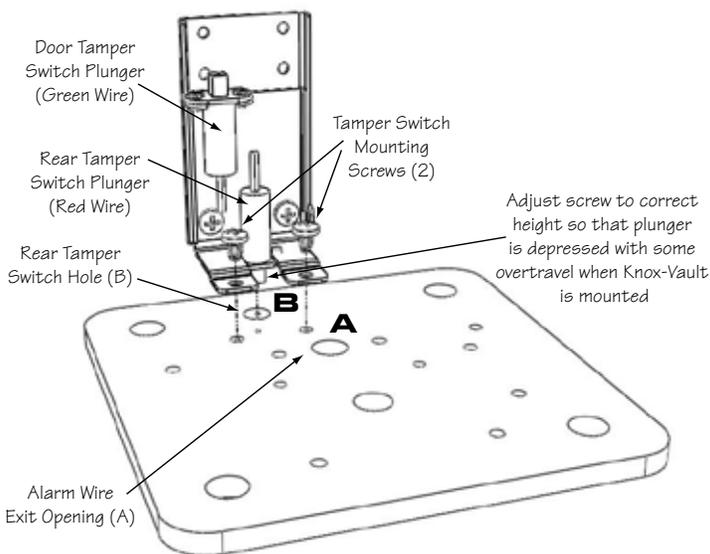

Figure 1
2. Position Knox-Vault on wall so wires from alarm panel protrude into box through hole (A) in back plate. See figures 1, 2 & 3.
4. **Recessed Mount Knox-Vault** uses door tamper switch only, therefore the **rear tamper** switch is **omitted**. To install tamper switch assembly: Align tamper switch mounting holes with threaded holes in back plate. Insert and tighten two tamper switch mounting screws provided. (See figures 1 and 2).
Surface Mount Knox-Vault: Align rear tamper switch plunger with hole (B) in back plate, as shown in figure 1. Check length of plunger and, if necessary, adjust plunger screw to give proper travel. Check plunger contact by GENTLY pressing the bracket flush against the back plate. **CAUTION:** If the rear tamper switch adjustment screw protrudes too far, the rear tamper switch will break when bracket is tightened. Use of an ohm meter is recommended to assure that switch trips (0 ohms – for red/green wire, open for yellow wire) when bracket is GENTLY pushed flush against the back plate. Secure tamper switch to back plate with screws provided.
5. Connect tamper switch wires to building alarm. Alarm wiring must be pulled back through the Alarm Wire Opening (A) to prevent interference with the lock mechanism. Green and Red wires must be secured tightly so that if box is removed, wires will be broken in the process, thereby causing alarm activation. Yellow wires should be loosely secured so that if box is removed the wire can pull out about an inch to allow rear switch to close and cause an alarm before wires break.